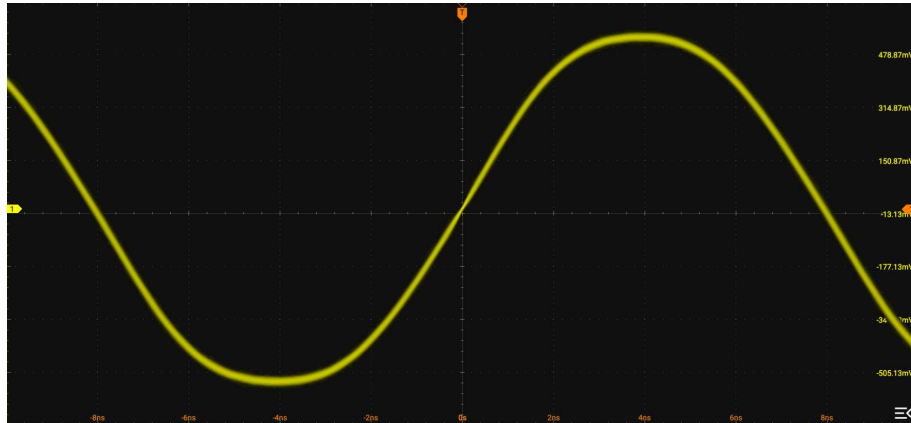

Figure 4.27 Data Signal Waveform
- MDI data signal generated from the DUT in Test Mode 3, as shown in Figure 4.27.